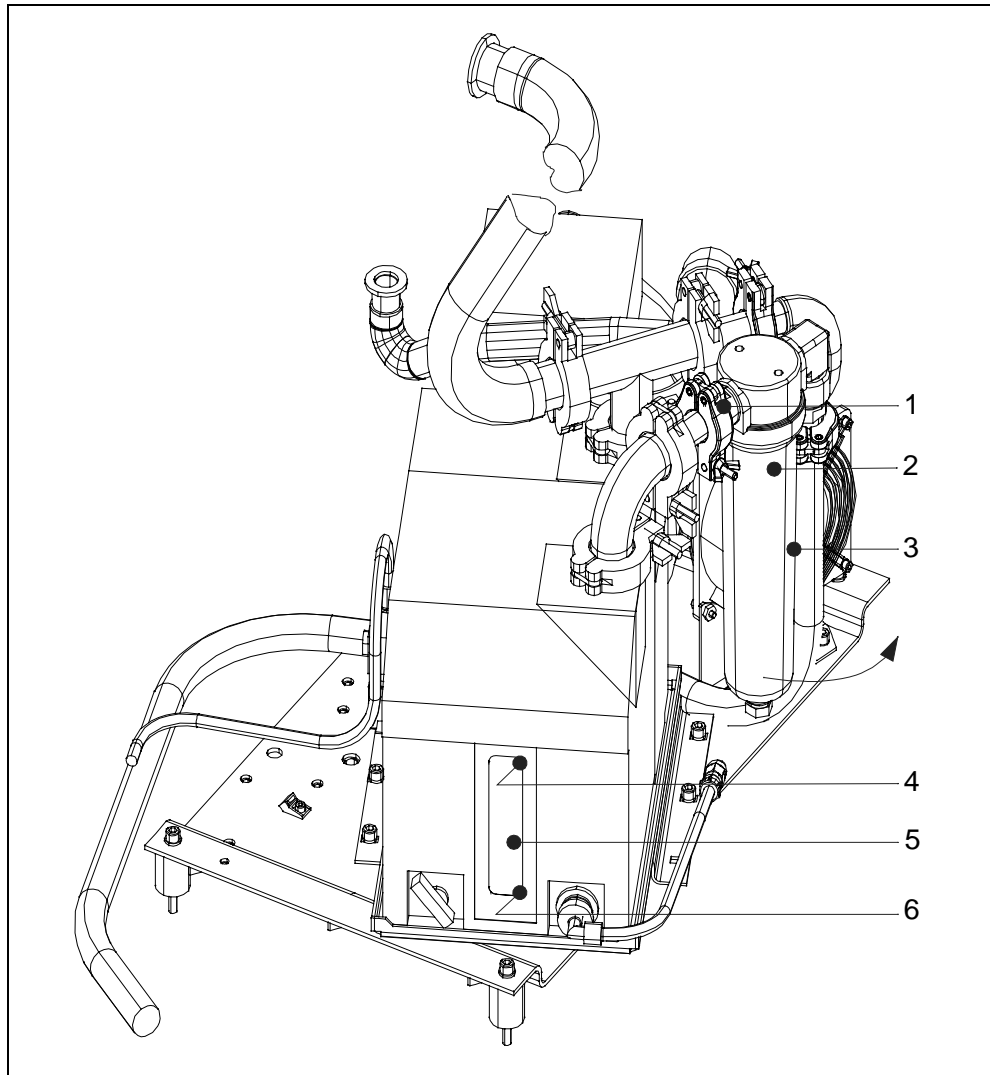

Fig. 9-4 Installation location of the exhaust filter
The installation location for the exhaust filter is given in Fig. 9-4 below.
- Loosen the clamping ring at the exhaust filter (Fig. 9-4/1) and swivel the complete filter in the direction of the arrow outwards to such an extent that the oil reservoir vessel can be removed.